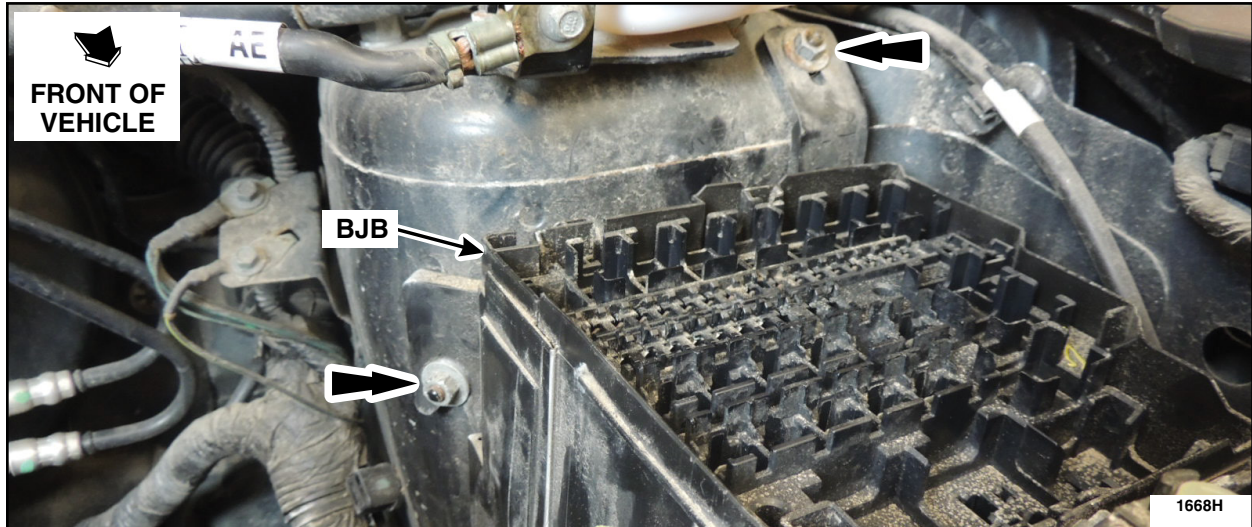

FIGURE 2
4. Remove the two nuts from the BJB. See Figure 2.